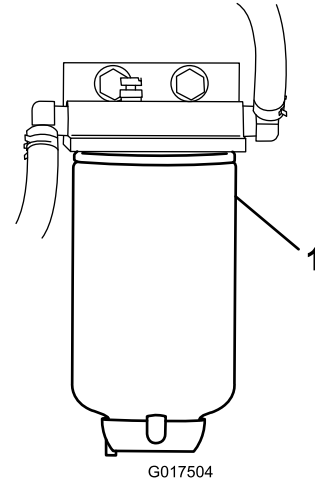

Figure 33
4. Unscrew the fuel filter from the bracket (Figure 33).